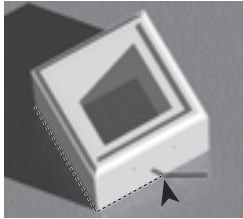

FIGURE 1A
A) Temporarily position NEWEL POST BOTTOM SECTIONS and mark layout lines on floor surface (**FIG. 1A**). This positioning is important in order to get accurate measurements between the NEWEL POST BOTTOM SECTIONS.